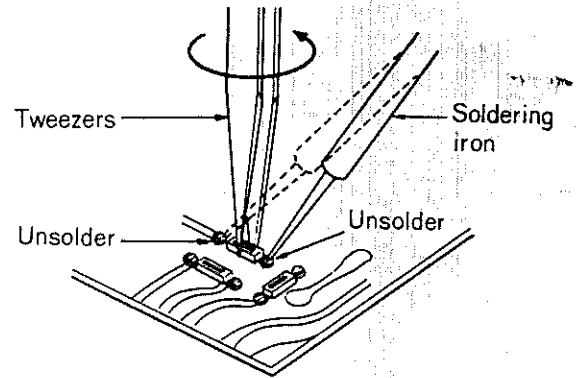

Fig. 29
2. Remove chip with tweezers by rotating it while removing solder as shown in fig.29.